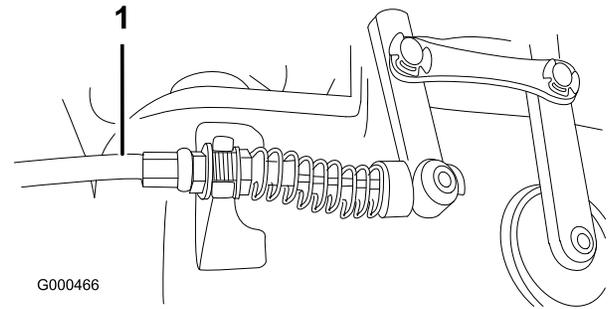

Figure 49
2. To increase cable tension, loosen front cable jam nut and tighten back cable jam nut (Figure 49) (located on top of gear box) until the reel cable force adds 7 to 10 lbs. (3-4.5 kg) of additional handle force measured at the control knob.